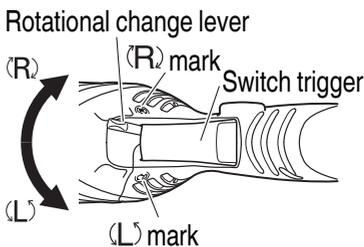

Fig. 5
6. Check the rotational direction (Fig. 5) (DV13VSS, DV16VSS only)